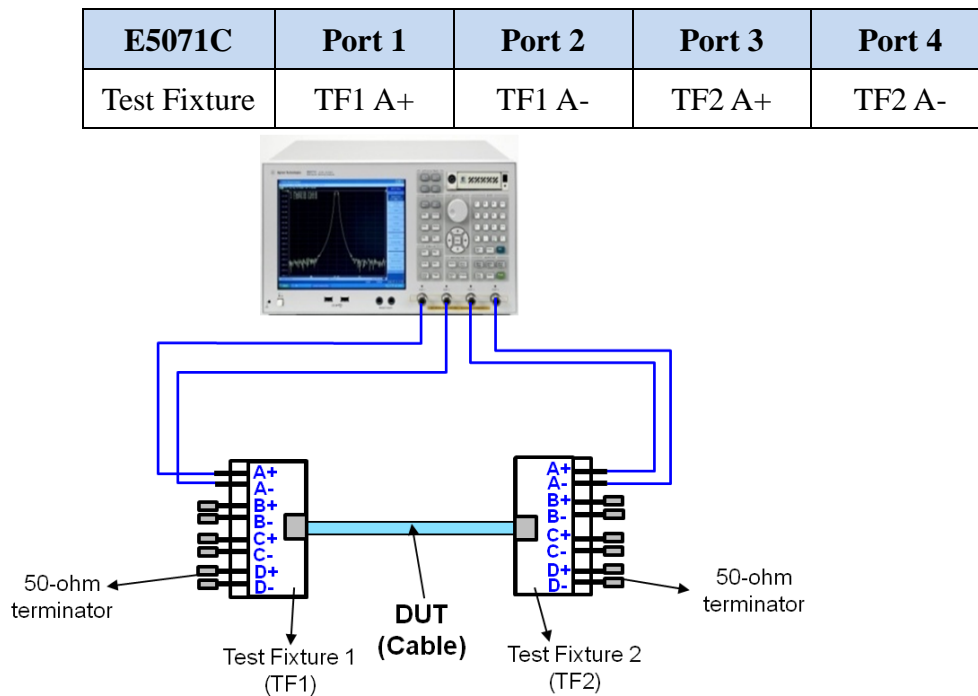

Figure 5-2 Differential Characteristic Impedance Test Setup
1. Connect the E5071C and the test fixture with the RF cables. (Figure 5-2).
1. Connect DUT to the test fixtures with the RF cables (Figure 5-2).
1. Connect the E5071C and the test fixtures with the RF cables. (Figure 5-2)